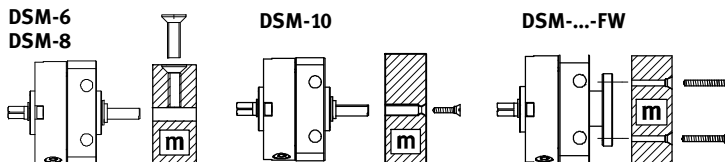

Fig. 5
- Push the useful load onto the output shaft (stud shaft/flanged shaft) (Fig. 5)